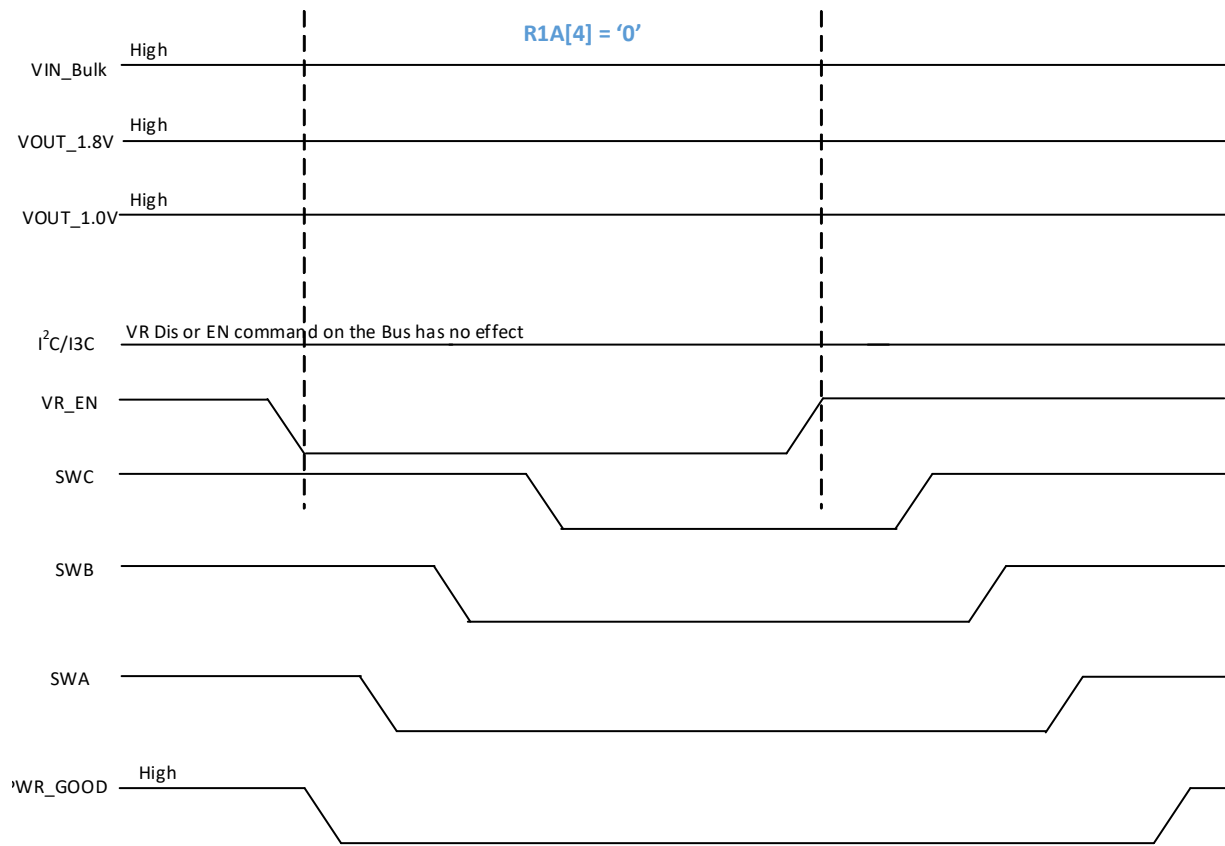

Figure 29 — Power Down with VR_EN Pin; R1A[4]=0; Secure Mode; PWR_GOOD Signal
1. The VR Disable command with VR_EN pin transitions to low. The PMIC asserts PWR_GOOD signal Low. The PMIC executes power off sequence config0 (Table 176, Register 0x58) to power off sequence config2 (Table 178, Register 0x5A,) to preserve the appropriate voltage relationship as configured in the registers. The host can re-enable the PMIC's output regulators by VR_EN pin transition to High. The PMIC executes power on sequence config 0 to power on sequence config 2 registers and floats PWR_GOOD signal after tPMIC_PWR_GOOD_OUT timing parameter is satisfied. See Figure 29. The PMIC does not require power cycle.
1. The VR Disable command with VR_EN pin transitions to low. The PMIC asserts PWR_GOOD signal Low. The PMIC executes power off sequence config0 (Table 176, Register 0x58) to power off sequence config2 (Table 178, Register 0x5A), to preserve the appropriate voltage relationship as configured in the registers and enters in P1 state. The host can re-enable the PMIC's output regulators by VR_EN pin transition to High. The PMIC exits from P1 state and executes power on sequence config 0 to config 2 registers and floats PWR_GOOD signal after tPMIC_PWR_GOOD_OUT timing parameter is satisfied. See Figure 29. The PMIC does not require power cycle.